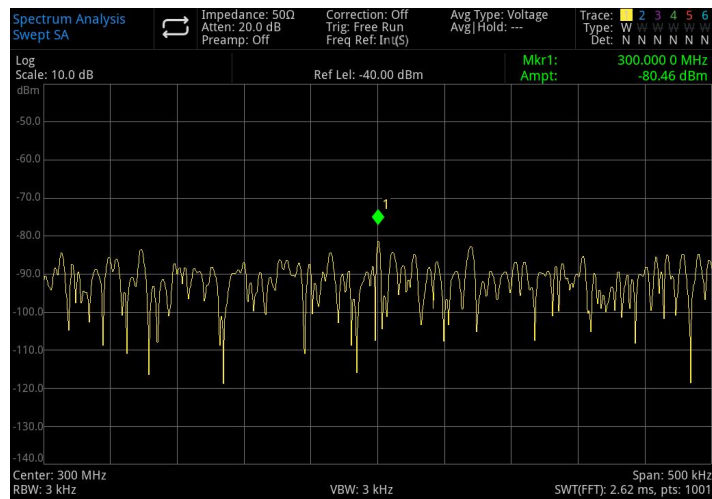

Figure 3-11 A Signal Close to Ground Noise
5. Decrease the span to 500 kHz (as shown in Figure 3-11).